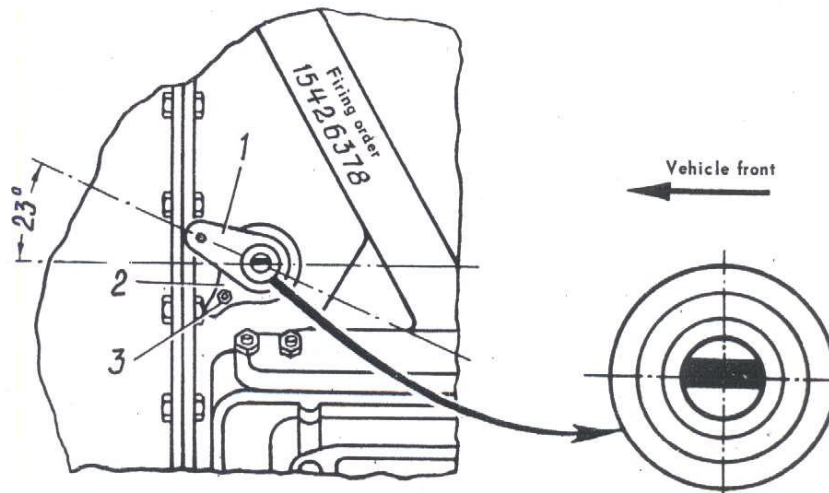

FIG. 87. INSTALLATION OF DISTRIBUTOR DRIVE
(a) insert the distributor drive into the hole of the cylinder block so that the slot in the drive shaft is in line with the engine longitudinal axis and shifted to the right when viewed from the rear of the vehicle (Fig. 87);
(b) secure ignition distributor drive body 1 by means of holder 2 and nut 3 so that the bracket with the threaded hole on distributor drive body 1 is facing forward (towards the vehicle front) and turned through 23° leftwards from the engine longitudinal axis as shown in Fig. 87.
4. Loosen attachment nut 3 (Fig. 87) of the ignition distributor drive holder.